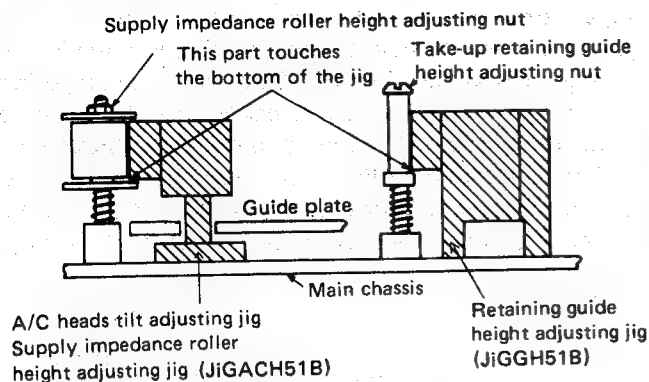
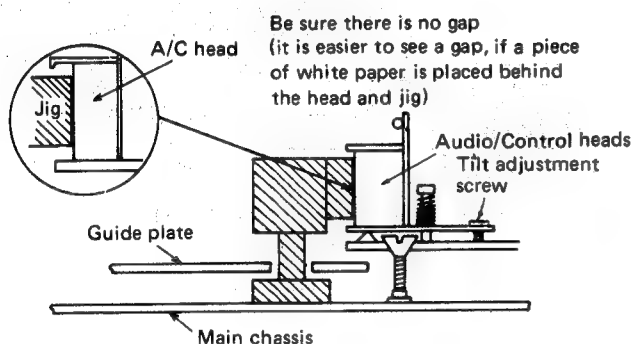
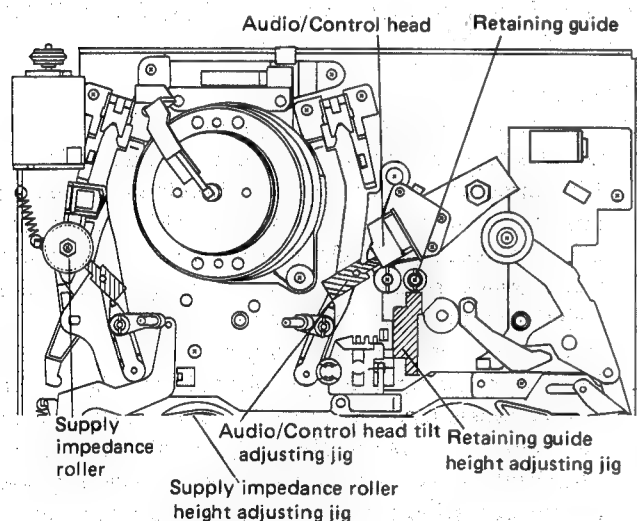

Figure 19.
Figure 20.
Figure 21.
Set the supply impedance roller height adjusting jig (the same as the audio/control heads tilt adjusting jig) on the main chassis as shown in Fig. 19. For details, also see Fig. 21. Using a box driver, slowly turn the supply impedance height adjusting nut until the roller's height is as specified.
Set the retaining guide height adjusting jig on the main chassis as shown in Fig. 20. For details, also see Fig. 21. Using the adjusting screwdriver (JiGDRIVERH-4), slowly turn the retaining guide height adjusting nut until the guide's height is as specified.
Set the audio/control heads tilt adjusting jig on the main chassis as shown in Fig. 19. For details, also see Fig. 21. Using a philips screwdriver, slowly turn the adjusting screw until there is no clearance between the jig and audio/control heads. (See Fig. 20)
2. Undo the tilt adjustment screw (6) with a hexagonal wrench.
3. Remove the screw (5) (3P+8S) with a philips screwdriver.
4. Undo the audio/control heads screw (4) with a philips screwdriver: pay attention to the spring between the audio/control heads plate and the audio/control heads screw.
7. Adjust the audio/control heads tilt angle as shown in Fig. 20.
4. Set the tilt angle of the audio/control heads as shown in Fig. 20.